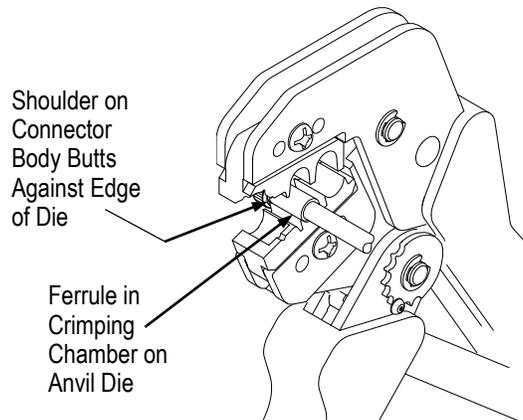

Figure 3
4.2. Crimping the Ferrule (Figure 3)